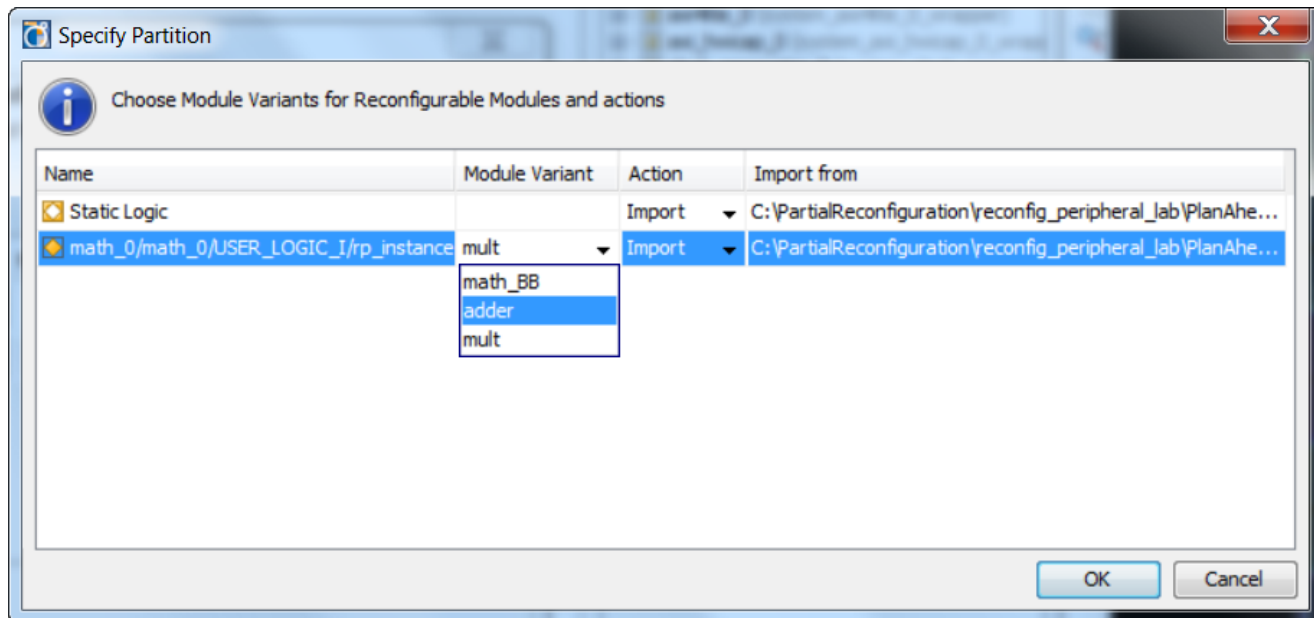

Figure 26: Selecting adder Module Variant
7. For the `rp_instance` row, click the Module Variant column drop-down arrow, and select **adder** as the variant to be implemented, as shown in Figure 26.